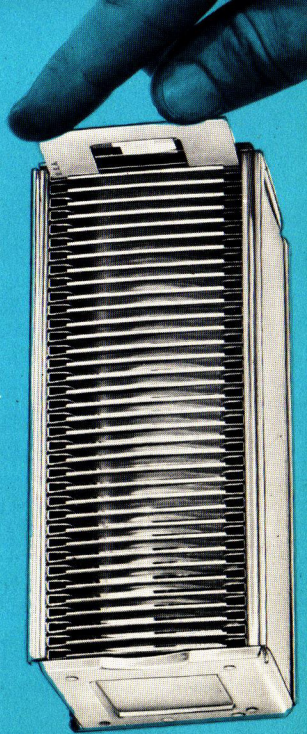

FIG. 6
4. Without removing the metal slide frames from the magazine, insert the slides into the frames upside down (bottom of picture towards the index card of the magazine) with the shiny side toward the projection lamp in the usual manner. Be sure to push each slide into its frame all the way so it is seated behind the "lip" of the outer edge of the metal frame. (Fig. 6) The magazines are equipped with springs which prevent slide frames from falling out during handling.